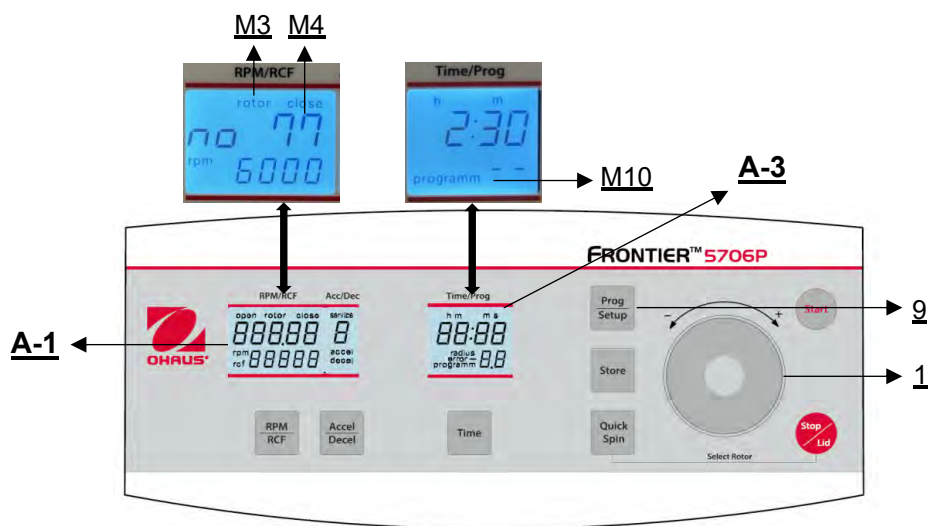

Figure. 24
To recall stored programs, press the key **"Prog/Setup"** (9) (see **Figure 24**) while the lid is already closed. Inside the display **"Time/Prog"** (A-3), **"program--"** (M10) appears. The desired program number can be pre-selected with the touch wheel (1).
To leave the program mode just press the key **"Prog/Setup"** (9) (see Figure 24). Then inside the display **"Time/Prog"** (A-1) the word **"programm"** (M10) appears. Set the display to **"programm--"** (M10) with the touch wheel (1).